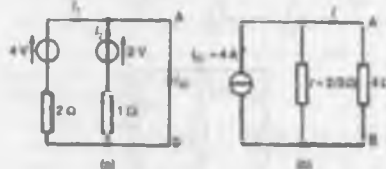

Figure 13.56
- (i) The $4\ \Omega$ branch is short-circuited as shown in Fig. 13.56(a)
- (ii) From Fig. 13.56(a),
- (iv) From the Norton equivalent network shown in Fig. 13.56(b) the current in the $4\ \Omega$ resistance is given by: